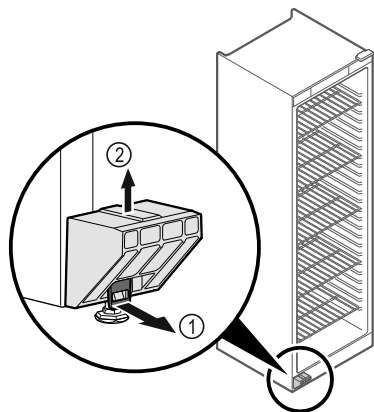

Fig. 1
- ▶ Pull tab Fig. 1 (1) forwards.
- ▶ Take off transport lock Fig. 1 (2) in upwards direction.